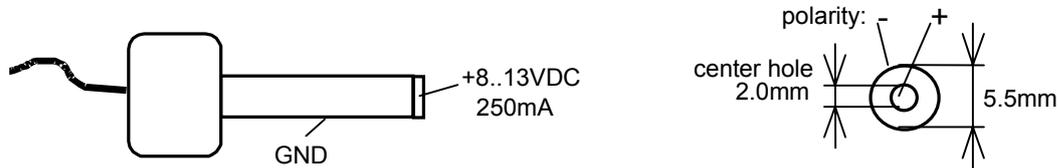

Figure 3: Power Connector
- Using the included power adapter, connect the power socket on the board (X102) to a power supply (*refer to Figure 3 for the right polarity*).